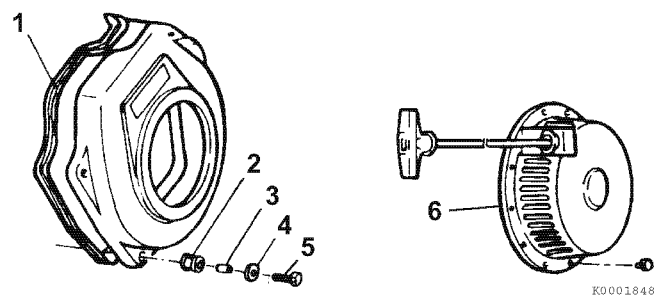

Figure 6-103
11. Attach the rubber seal (1, **Figure 6-103**) to the fan housing.
12. Install the fan housing rubber supports (2, **Figure 6-103**) and sleeves (3, **Figure 6-103**).
13. Install the cooling fan housing and secure with washers (4, **Figure 6-103**) and bolts (5, **Figure 6-103**). Install the recoil starter (6, **Figure 6-103**) if it has been removed.